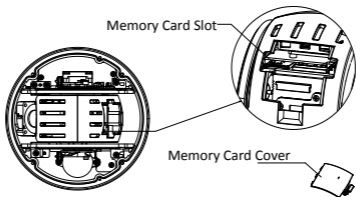
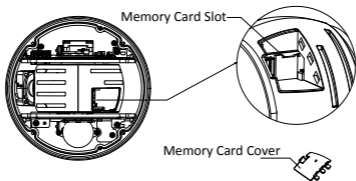

Figure 2-7 For 20× Camera Module
Figure 2-8 For 4× Camera Module
3. Open the memory card cover and insert the memory card into the card slot as shown in Figure 2-7 and Figure 2-8.